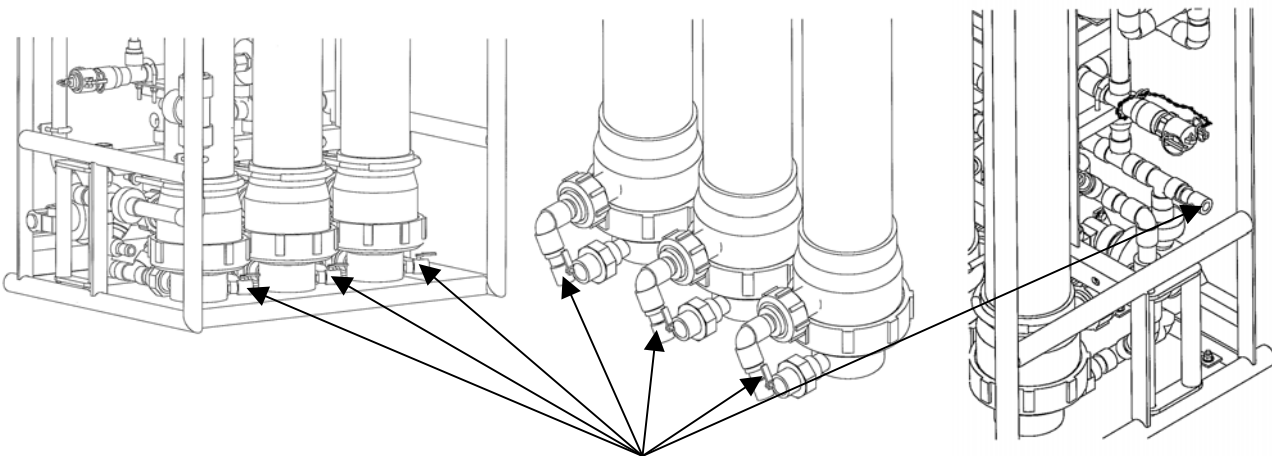

Figure 20. UF Module Drain Valves.
5. Ensure that all five drain valves on the UF module are closed. See Figure 5 and Figure 20.